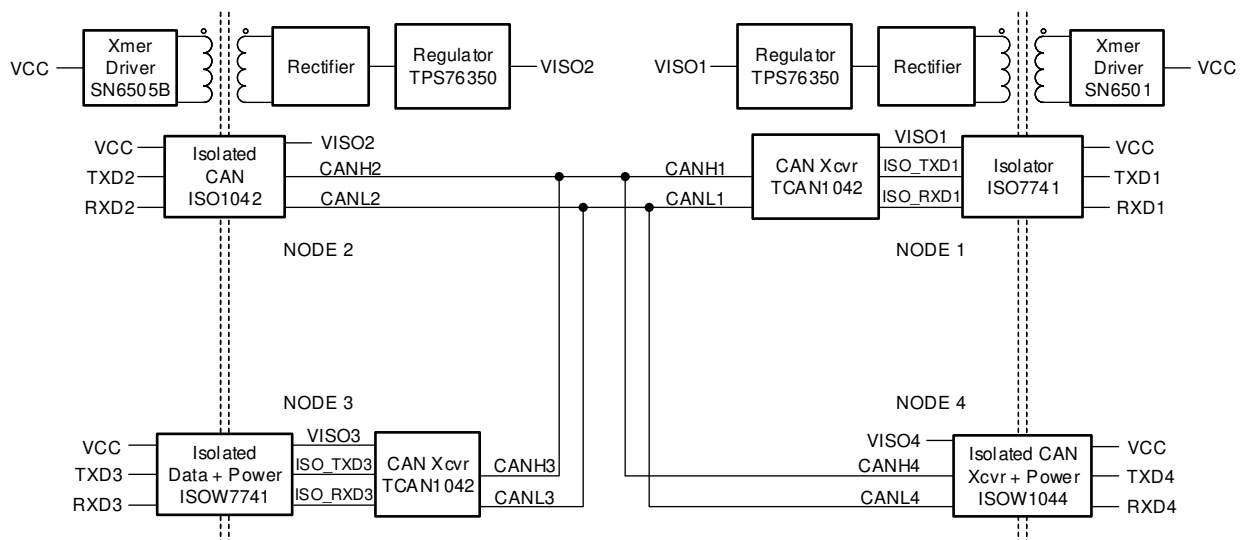
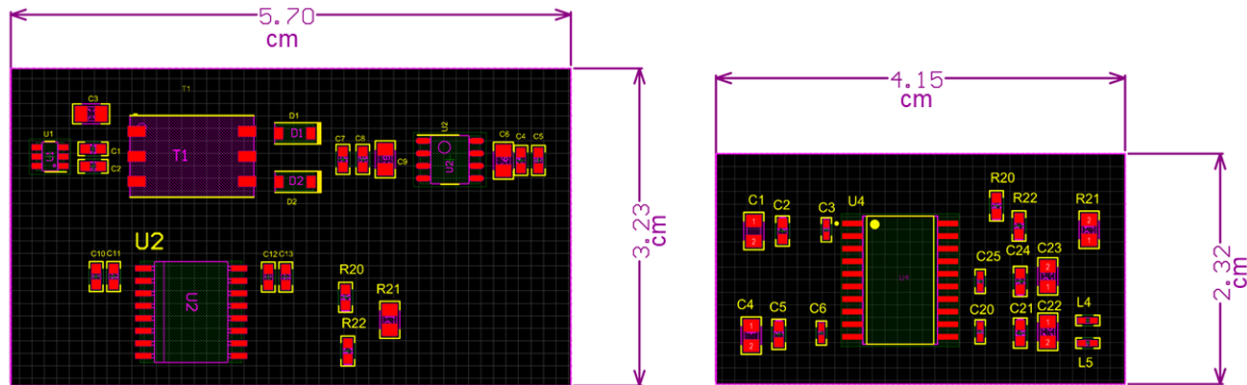

Figure 1. Interconnected CAN Nodes with Different Isolated Signal And Power Configurations
Figure 2. Board Spaces Comparison of Discrete and Integrated Solution
This application brief shares the different options to isolate signal and power in isolated CAN systems. Figure 1 shows four different isolated CAN nodes. Moving from node 1 to node 4, each solution has different level of integration. Node 1 has a complete discrete solution with the discrete isolator in series with a CAN transceiver, while the transformer driver provides the excitation for the external transformer to provide the isolated power supply (VISO1). Node 2 uses a similar isolated power supply but shows the integrated isolated CAN devices that save some board space.
- **Compact design and lower cost:** Transformers or modules used for isolated power typically occupy a large space on the board, not only in the X and Y dimension but also in height. For applications where the boards are stacked next to each other this transformer height often dictates the spacing between boards. By using planar transformers within the standard SOIC package, the ISOW1044 reduces board space by almost 48% when compared to discrete solution, like in Node 1 or 2 in Figure 1. Figure 2 compares the board space occupied by Node 2 configuration versus Node 4.